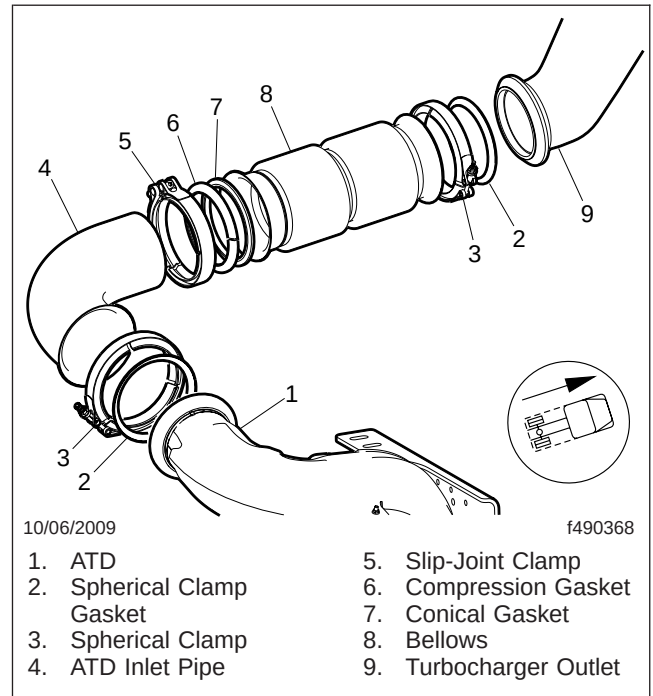

Fig. 1, Exhaust Bellows Installation (typical DD15TC shown)
- 8.2 Slide the new slip-joint clamp, then the two new gaskets, onto the ATD inlet pipe in the order shown in Fig. 1.